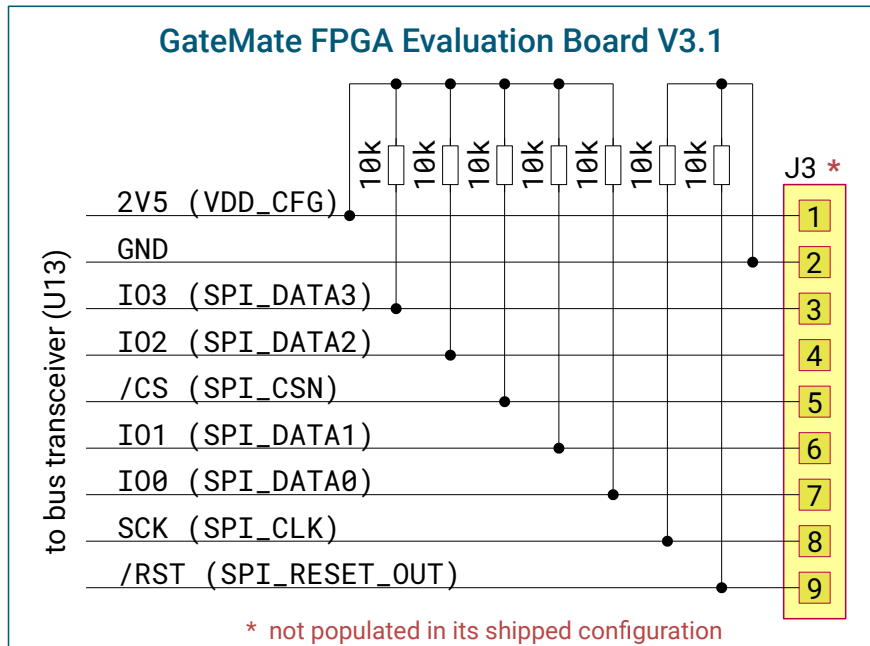

Figure 3.7: Optional SPI interface connector J3
The SPI bus can be accessed from any user device. For this, connector J3 (2.54 mm pin pitch, 9 pins) has to be populated. Figure 3.7 shows the pin assignment of the SPI connector.
- An external SPI device can feed a reset signal to the FPGA via the SPI connector J3 pin 9 (see Figure 3.7).